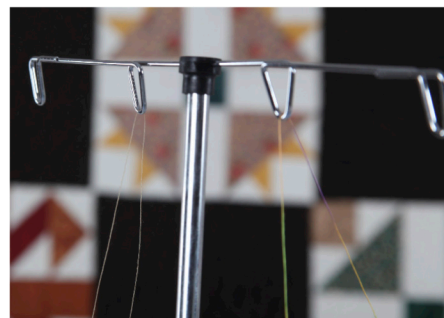

Figure 39
Step 2: Pull the thread through eyelet above the cone of thread. Make sure to use the eyelet directly above the cone of thread. *See figure 39*